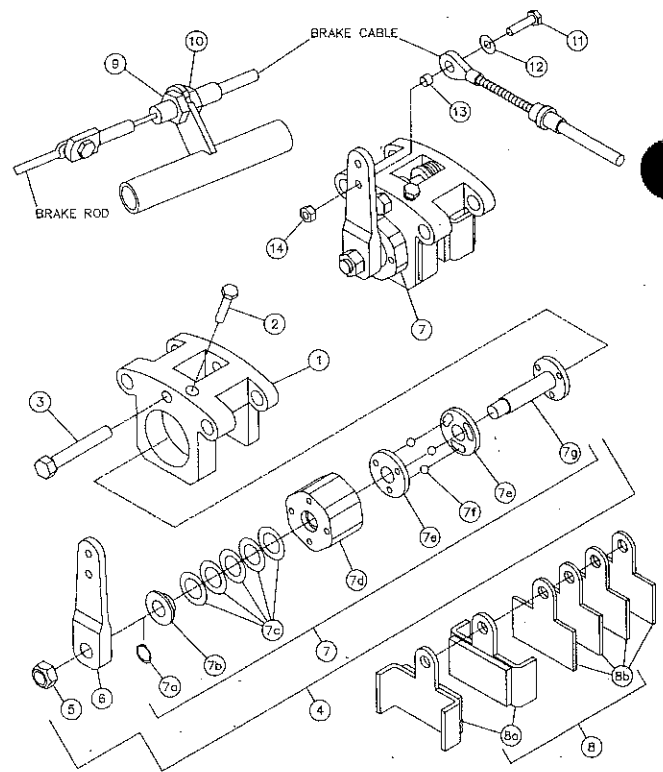

FIGURE 8
1. The front wheels should be "toed-in" from 1/8" to 1/4". To check alignment, measure distance A and B (Figure 8) to the center line (CL) of the tires with the wheels pointed straight ahead. For the proper toe-in dimension A should be 1/8" - 1/4" greater than dimension B.
3. The vehicle is equipped with tie rods as shown in Figure 8, and are to be adjusted as follows: Loosen and move jam nuts away from the rod ends. To make dimension B smaller, rotate the tie rod in the clockwise direction on both tie rod assemblies 1 or 2 full turns. If B needs to be larger, rotate the tie rods in the counter-clockwise direction on both tie rod assemblies. NOTE: The tie rod assemblies may require individual adjustment to ensure that the wheels are directed forward when the steering arm is in the vertical position and to adjust the toe-in so that each wheel has an equal amount of toe-in. Tighten the jam nuts snugly against the rod ends. NOTE: BOLTS AND NUTS MUST BE IN PLACE AND TIGHT BEFORE CHECKING THE DIMENSIONS. Recheck the distance and repeat the above steps until the dimensions are per paragraph 1 and 2 above.